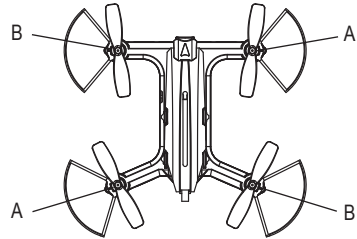

Fig. 8
- Your quadcopter has 4 rotors, 2 of which turn clockwise (A) and the other two anti-clockwise (B). See illustration Fig. 8.
- The kit provided in its original packaging contains 4 replacement blades, two type (A) and two type (B).